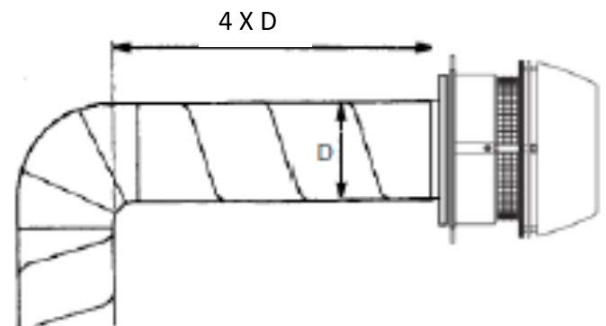

FIGURE 35
- In order to achieve optimal performance and energy consumption for the RS Fan, the duct must be installed as shown below and the distances observed. From the last elbow to the termination point the distance must be 4 times the diameter of the flue. For example, if using 12in flue (12 X 4 = 48in), the distance from the last elbow to the fan termination point should be 48 inches. (**Figure 35**)